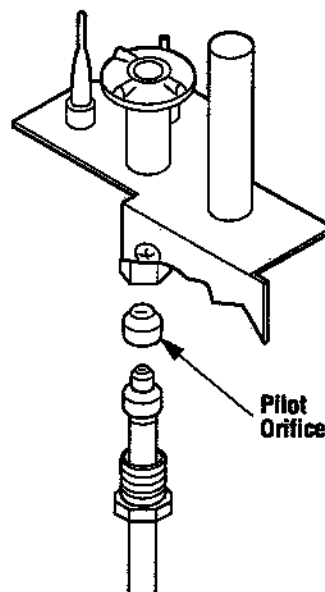

Figure 55
**Step 7. Millivolt Appliances** – Replace the pilot orifice with the one provided with the kit (Figure 55).